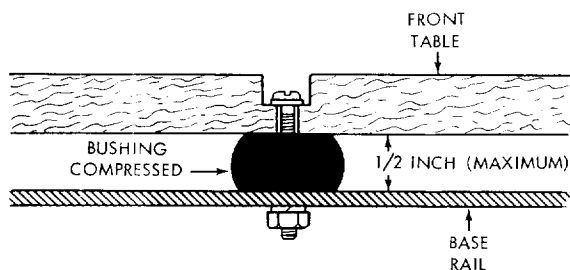

Figure 20
- f. Tighten all four front table screws to compress each of the four rubber bushings (figure 20) to a height not exceeding 1/2 inch. (If not compressed to 1/2 inch or less, the saw blade could not be positioned to a full 45° bevel without striking the table.)